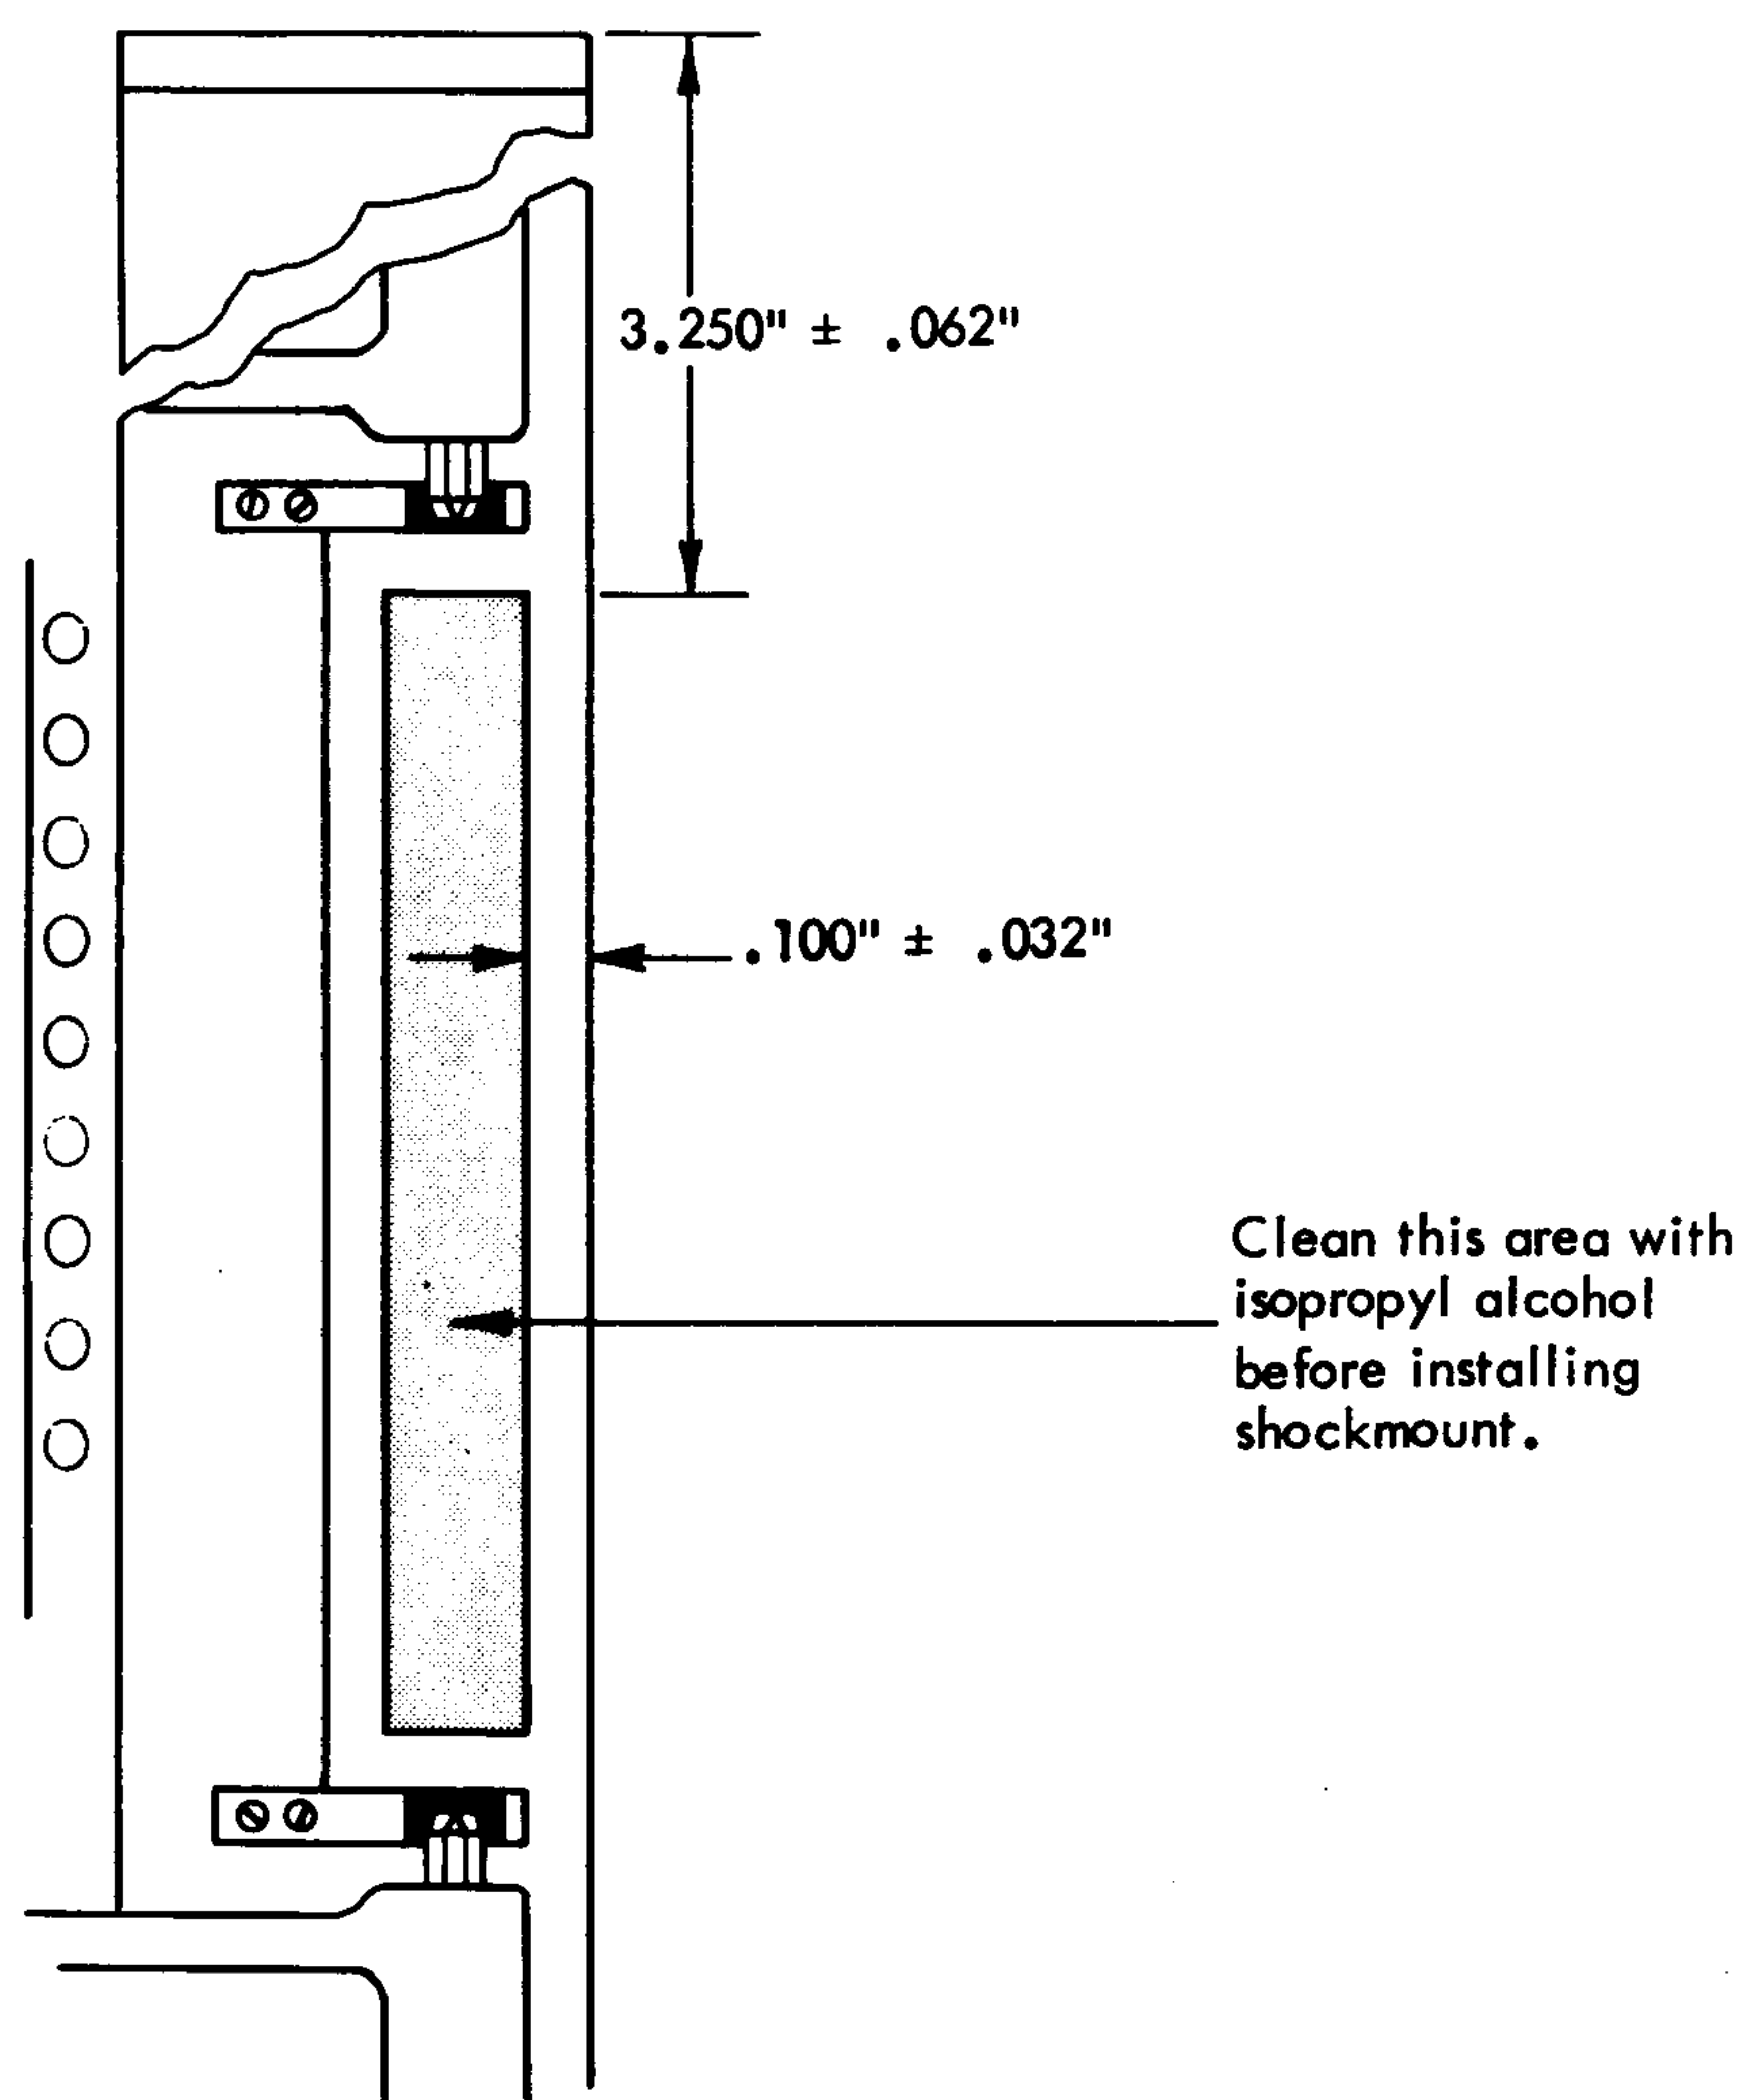

Figure 2-37. Shock Mount Installation
- c. Swing out the receiver and clean the surface of the receiver indicated in Figure 2-37 with isopropyl alcohol.
d. Remove the protective covering from the appropriate shock mount assembly and press it firmly in position (Figure 2-37).